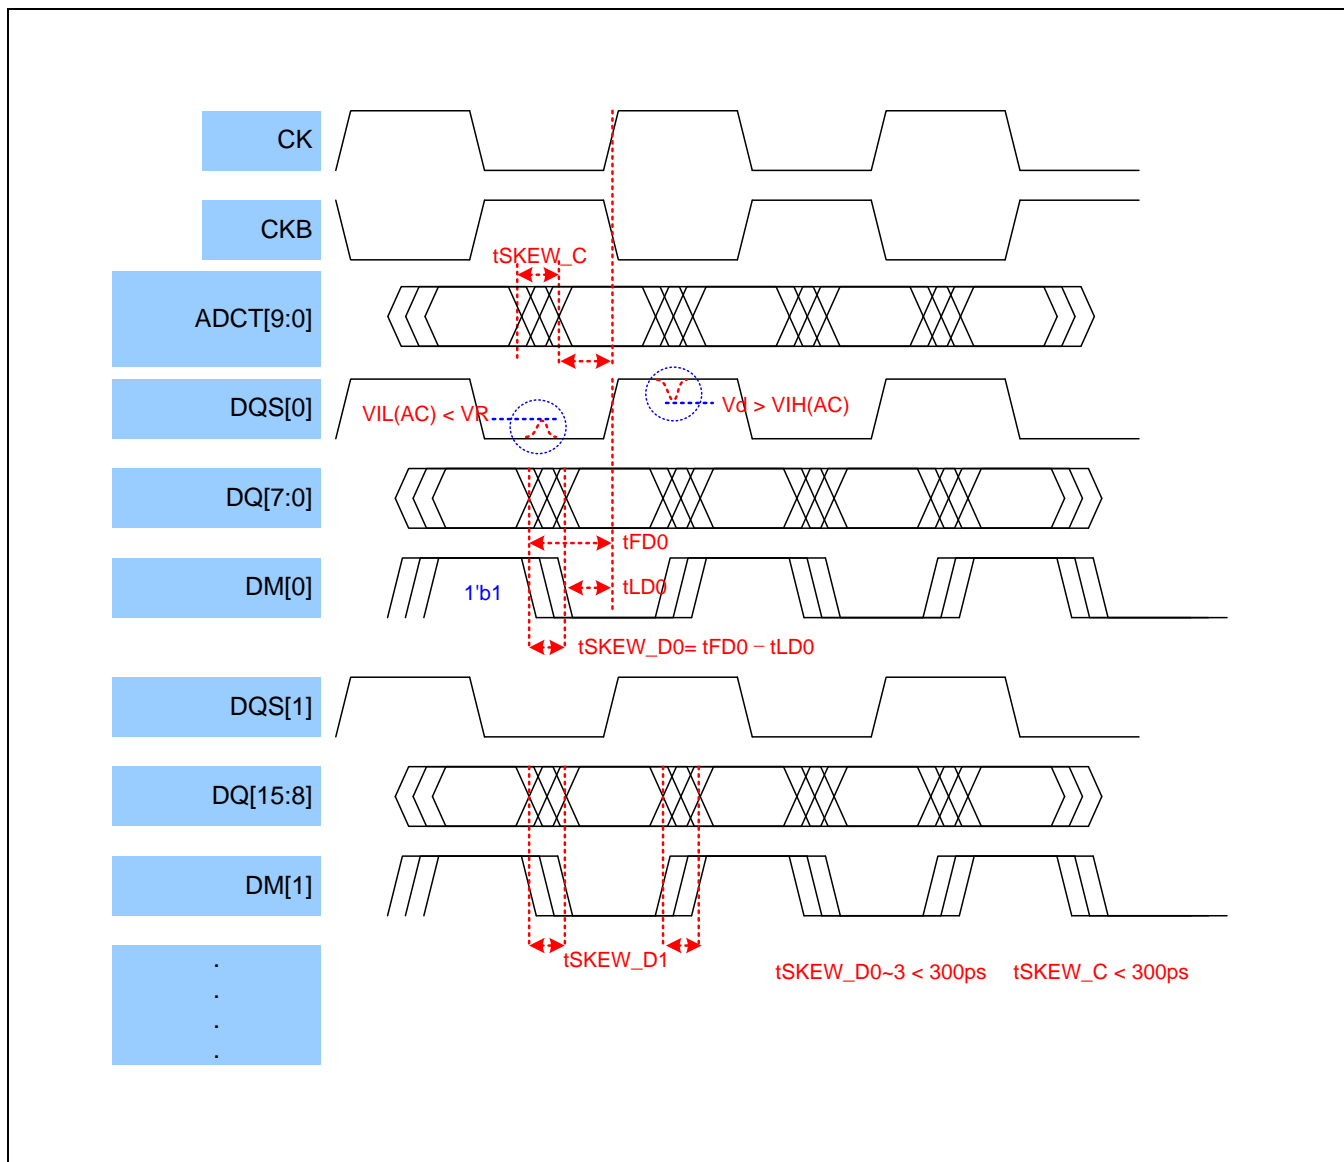

Figure 6-6 Check Points of SSN Simulation for LPDDR3
With the guided input pattern, tSKEW_C(control signal skew) and tSKEW_D0~D3(data skew) should be checked whether they are less than 300ps. And Vd/Vr(signal voltage drop/rise) should be checked whether they meet the VIL(AC)/VIH(AC) requirement as shown in Figure 6-6. Generally, they are caused by power/ground fluctuation and coupling noise.